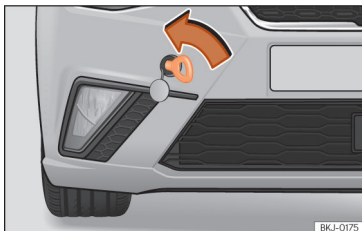

Fig. 46 Right side of the front bumper: towline anchorage in position.
- Screw the towing eye in the housing by turning it as far as it will go **anticlockwise** » **Fig. 46** » **!** Use a suitable object that can completely and securely tighten the towing eye in its housing.